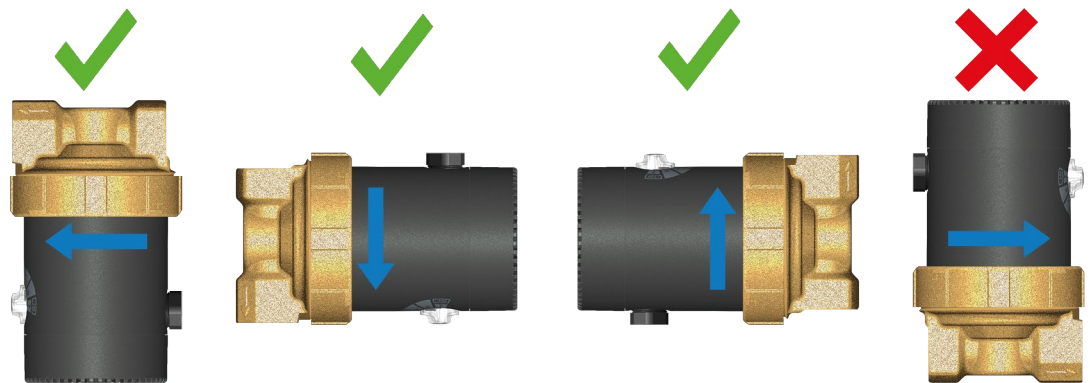

Figure 8
4. Install the pump housing into the plumbing line in the proper flow direction and in one of the permitted mounting positions (see **Figure 8** on page **23**).